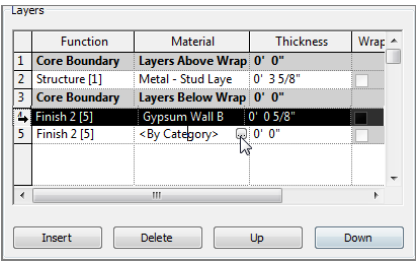

FIGURE 9.19: Clicking the button in the Material cell
7. In the Layers field, as shown in Figure 9.19, click row 4. This is the Finish 2 [5] Gypsum Wall Board row. The entire row should be highlighted in black when you have it selected properly.
- 11. Click in the Material cell, and click the [...] button (see Figure 9.19).